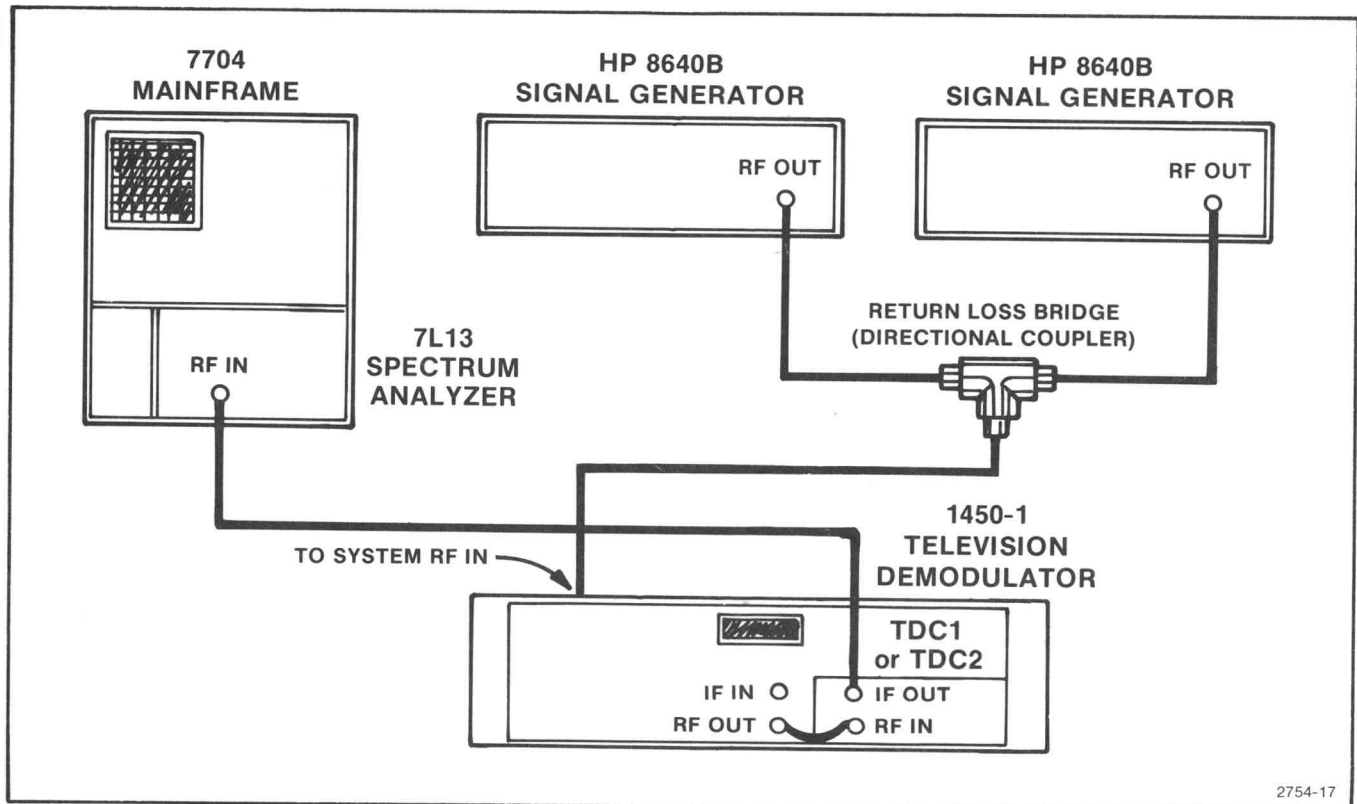

Fig. 4-6. Test Setup for Measuring 3rd Order Intercept Point.
- a. Connect the test equipment as shown in Fig. 4-6, and tune the down converter to a specific channel. Set the frequency of the generators 1 MHz apart at the center of the channel bandpass. For example, one generator would be set at 194.5 MHz and the second at 195.5 MHz for Channel 10. See Table 4-2 for channel limits.